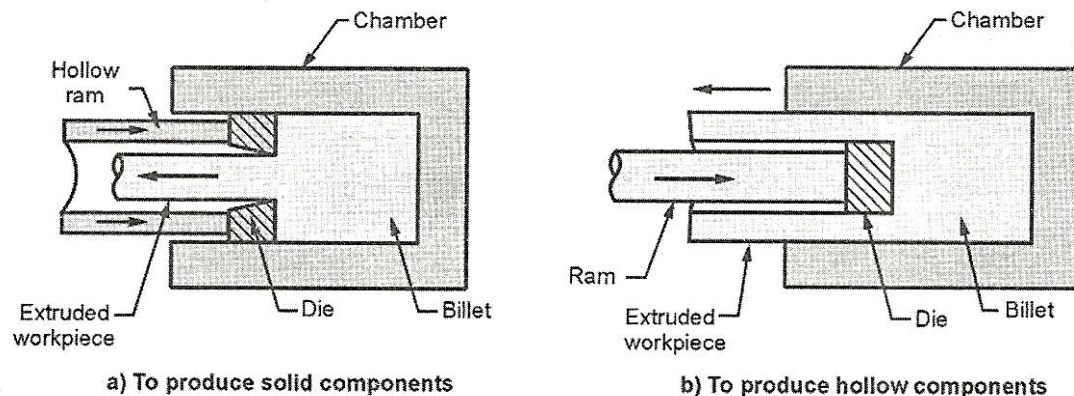

Fig. 3.40 : Indirect or backward or reverse extrusion
- In this type, the ram or plunger used is hollow and as it presses the billet against the back wall of the closed chamber, the metal is extruded back into the plunger, Refer figure 3.40.
- Indirect extrusion is also used to solid as well as hollow components. For producing solid parts, ram is hollow whereas for producing hollow parts ram is solid. Refer figure 3.40 (b).